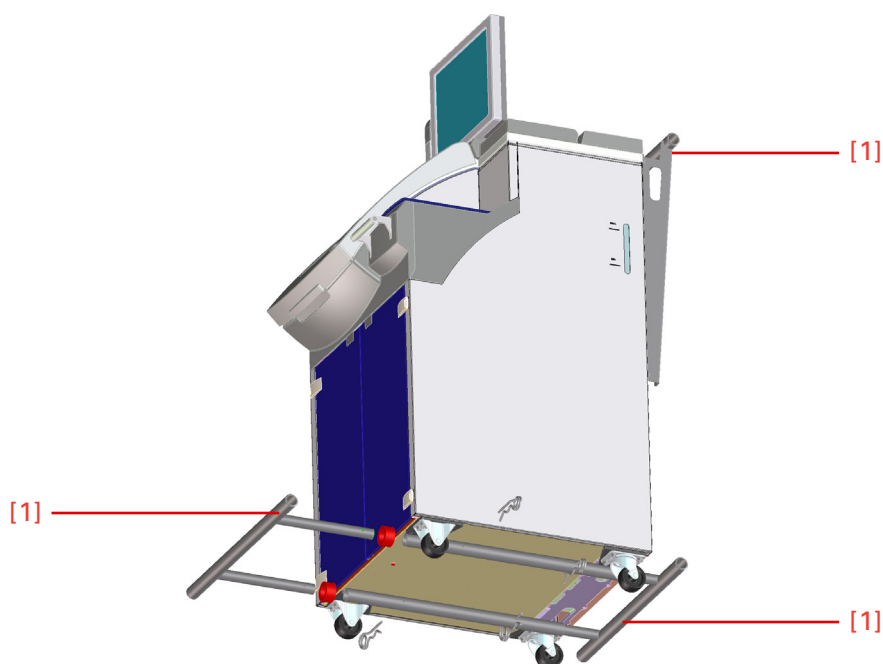

Figure 11. Position of the transport handles.
1. Use screws to fasten the largest of the three transport handles to the rear wall of the instrument (see Fig. 11)